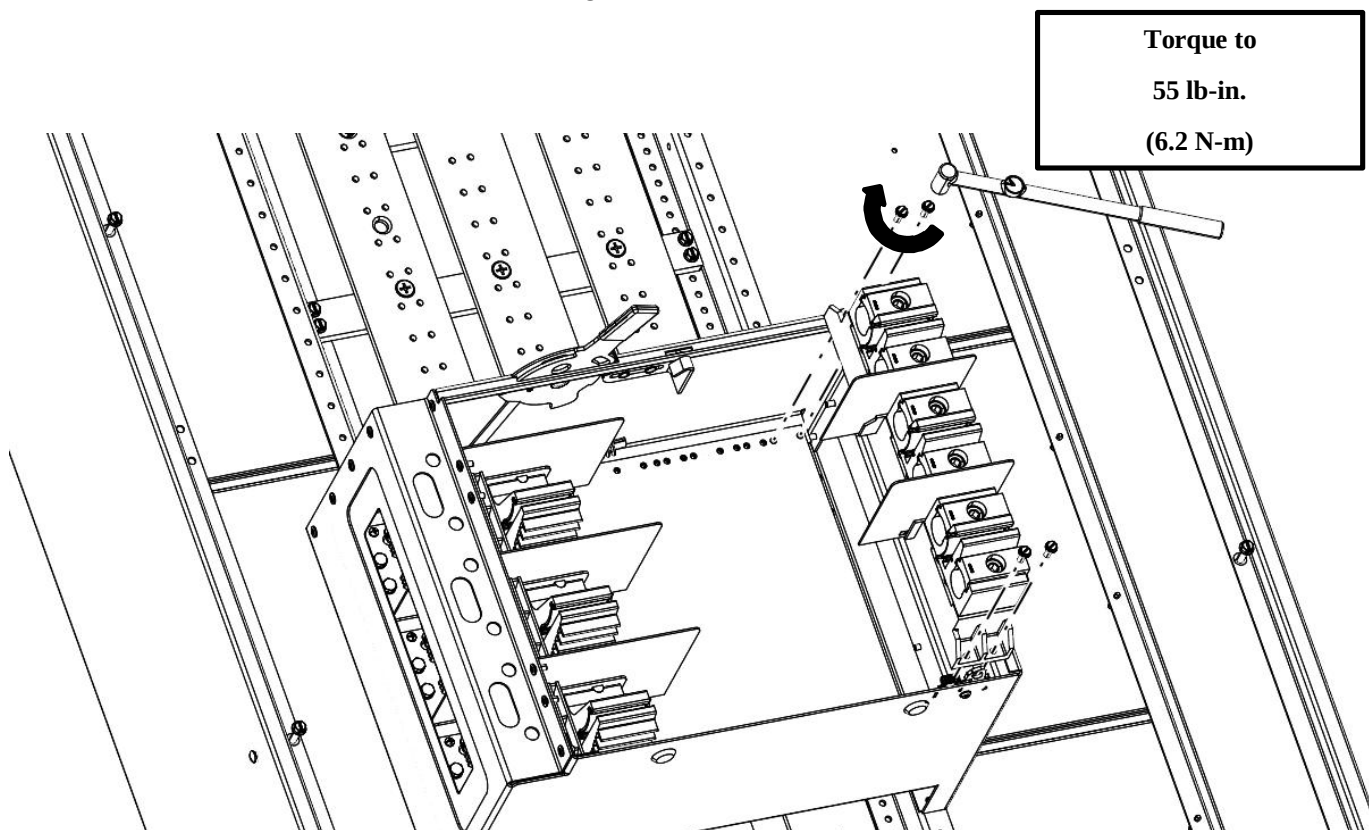

Figure 17
17. Reinstall load base mounting screws (take care not to strip existing thread) see Fig. 17.